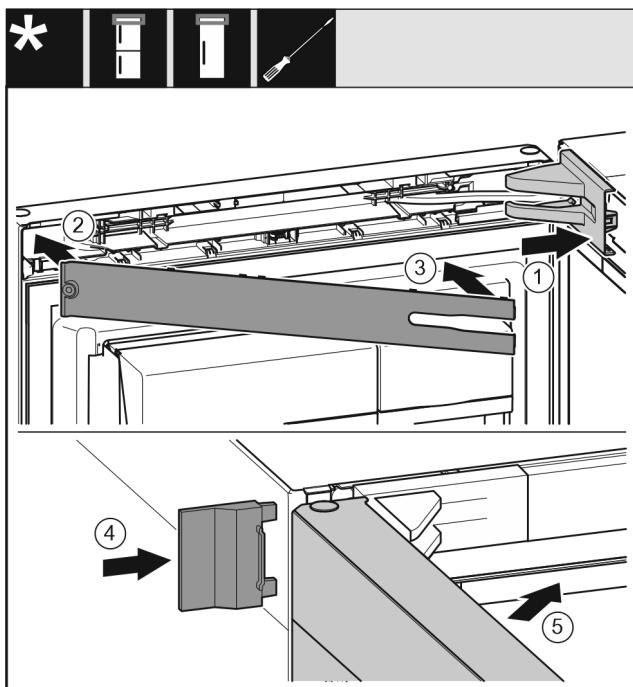

Fig. 49
- Position the bearing bracket cover and engage it. If necessary push it apart carefully. *Fig. 49 (1)*
- Place on the panel. *Fig. 49 (2)*
- Swing in the panel and latch it into place. *Fig. 49 (3)*
- Slide on the outer cover. *Fig. 49 (4)*
- Close the upper door. *Fig. 49 (5)*